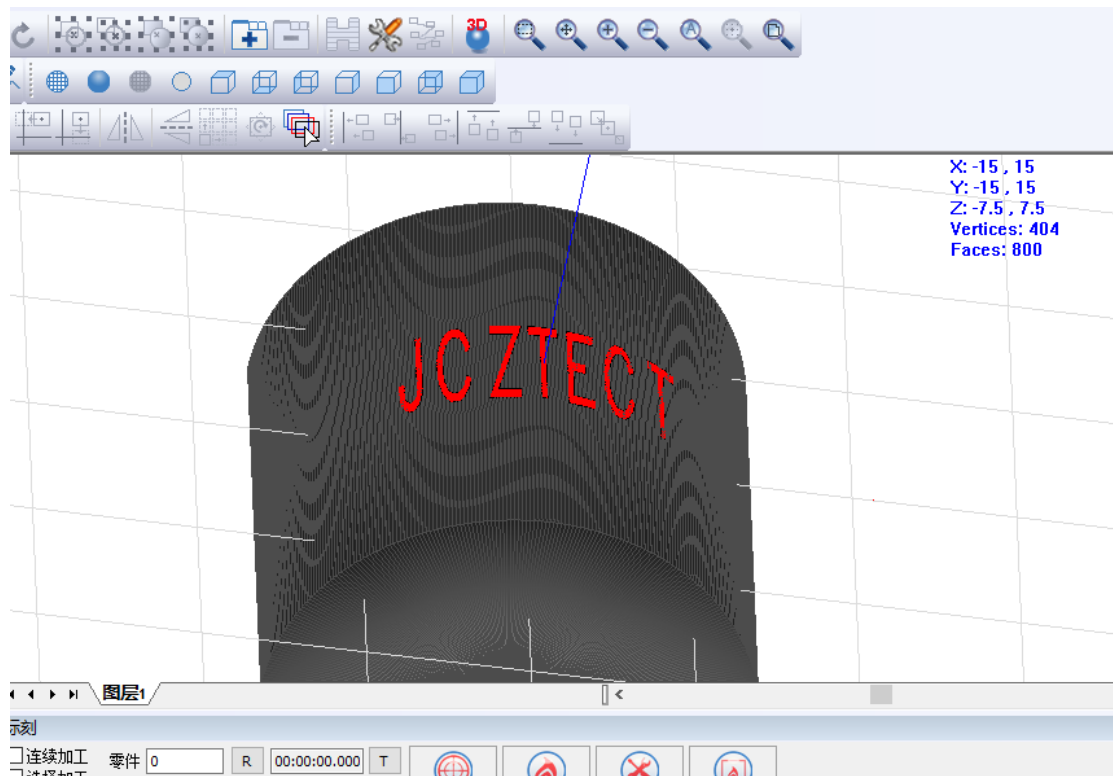

Figure 2.12 Projection effect
(5) Select the content to be projected, click  to select the projection, it is recommended to choose to remove the unintersected curve, set the z limit value and click OK.
(6) After the software is projected, press the “Ctrl” key and the left mouse button to move the mouse to view the projection effect, as shown in Figure 2.12.